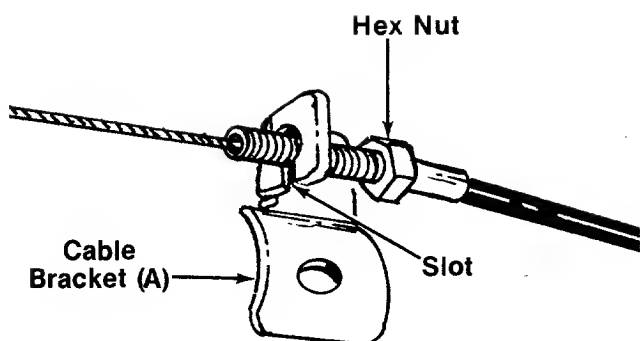
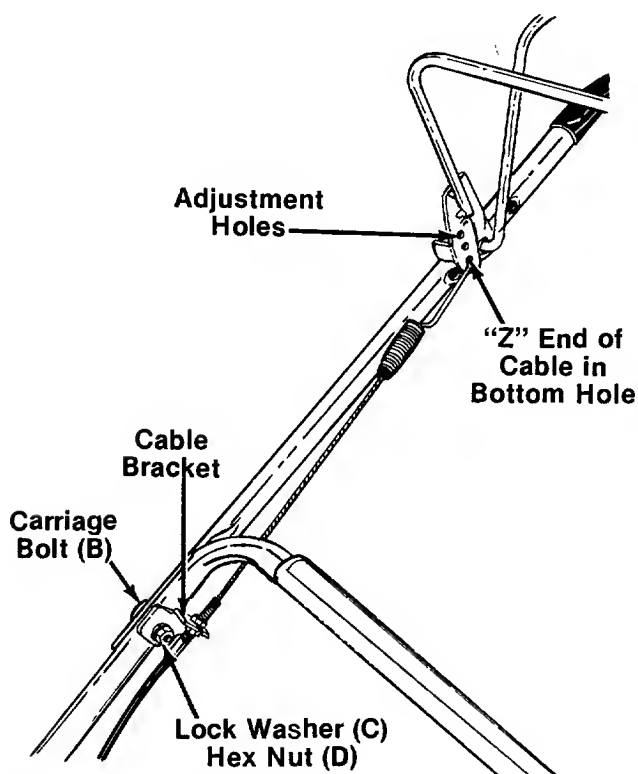

FIGURE 3.
FIGURE 4.
4. The drive clutch cable is attached to the drive cover, and has a spring on the loose end. Remove one hex nut from the end of the cable. Hold the cable bracket (A) as shown in figure 3. Slip the wire through the slot on cable bracket. Push end of cable up through the hole in the bracket. See figure 4. Start hex nut back on the end of the clutch cable. Do not tighten at this time.
5. Place upper handle in position over lower handle. Control housing must be on the **left** side of the handle. Secure left hand side of handle with one carriage bolt (B), lock washer (C) and hex nut (D).
6. Insert the other carriage bolt (B) through the right hand side of upper and lower handles.
7. Route the clutch cable under the lower handle. Hook the "Z" end of the clutch cable into the bottom adjustment hole in the clutch control handle. See figure 4.
8. Place the clutch cable bracket on the carriage bolt. See figure 4. Secure with lock washer (C) and hex nut (D).